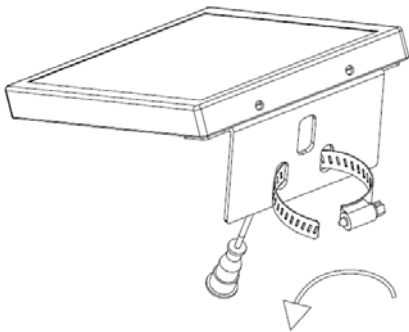

Figure 18
- b) There are 2 slots on the metal holder for steel loop. Attach the loop to the metal holder as shown in Figure 18.